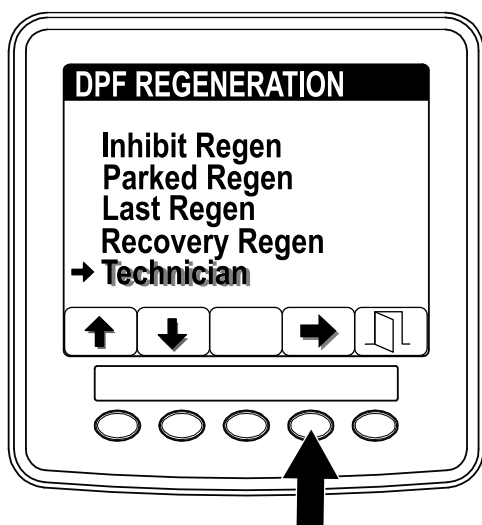

Figure 36
1. Access the DPF Regeneration menu, and press buttons 1 or 2 to scroll down to the TECHNICIAN option (Figure 36).
2. Press the button 4 to select the Technician entry (Figure 36)